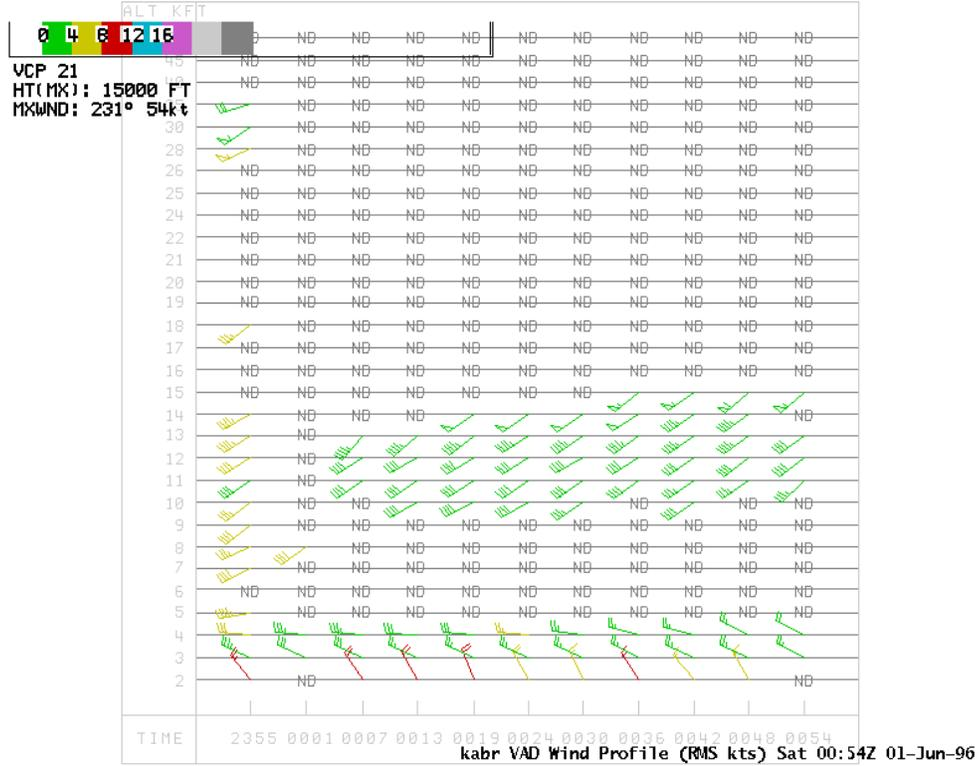

Figure 1. VAD Wind Profile.
12 Using figure 1, the winds appear reasonably accurate in the 10,000 - 15,000 ft range since ___ .
12. Using figure 1, the winds appear reasonably accurate in the 10,000 - 15,000 ft range since ___